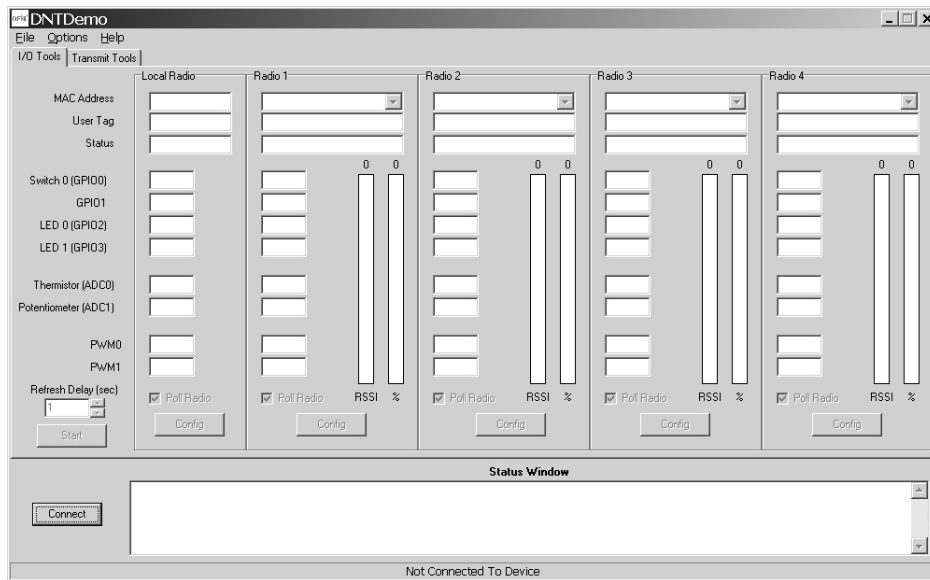

Figure 5
- The DNT Demo utility program is located in the *PC Programs* folder on the kit CD. The DNT Demo requires no installation and can be simply copied to the PC and run. Start the Demo on the PC. The Demo start-up window is shown in Figure 5.